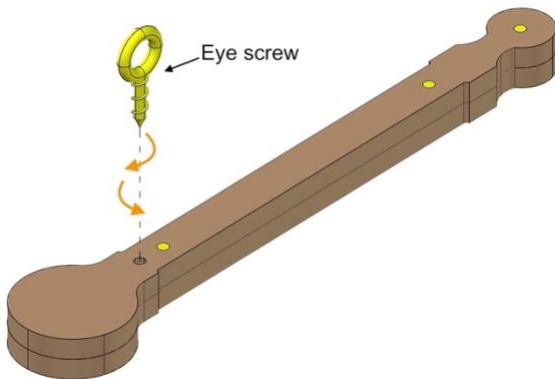

Fig. 55
- Align parts exactly as shown in *Fig. 55*.